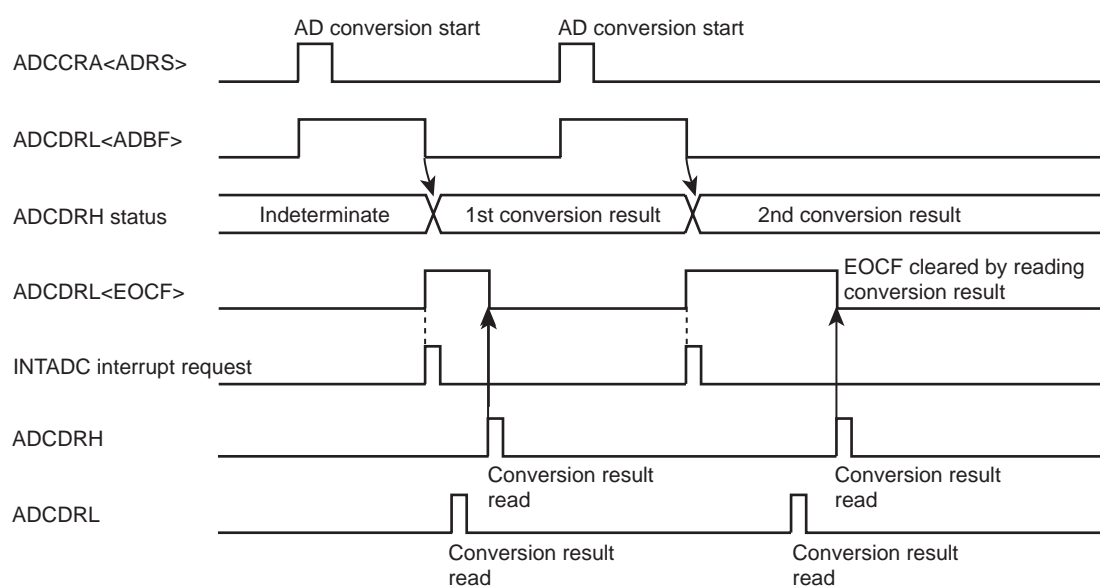

Figure 17-2 Software Start Mode
- Set the AD conversion time using AD conversion time (ACK). For details on how to set the conversion time, refer to Figure 17-1, Figure 17-2 and AD converter control register 2.
- After setting up (1) and (2) above, set AD conversion start (ADRS) of AD converter control register 1 (ADCCRA) to "1". If software start mode has been selected, AD conversion starts immediately.